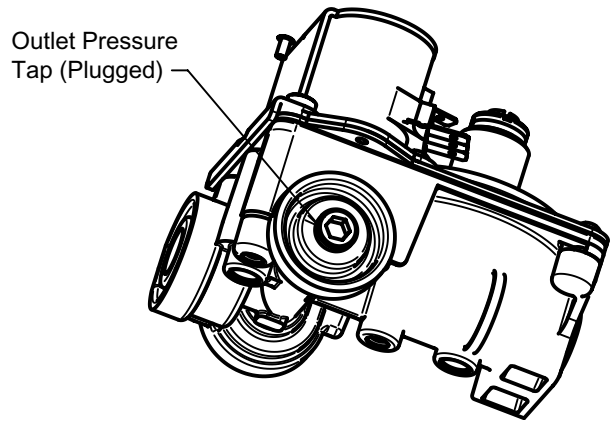
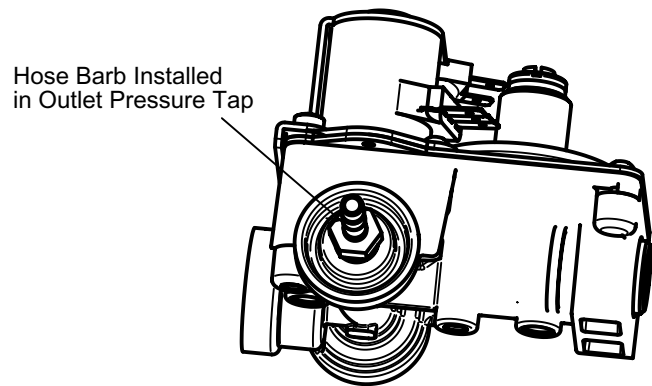

Figure 3
Figure 4
28. Remove the outlet pressure tap from the gas valve (see figure 3). Apply pipe sealant to the 1/8-inch NPT threads of a hose barb. Install the hose barb into the outlet pressure tap and tighten to 40 lbf-in (see figure 4).